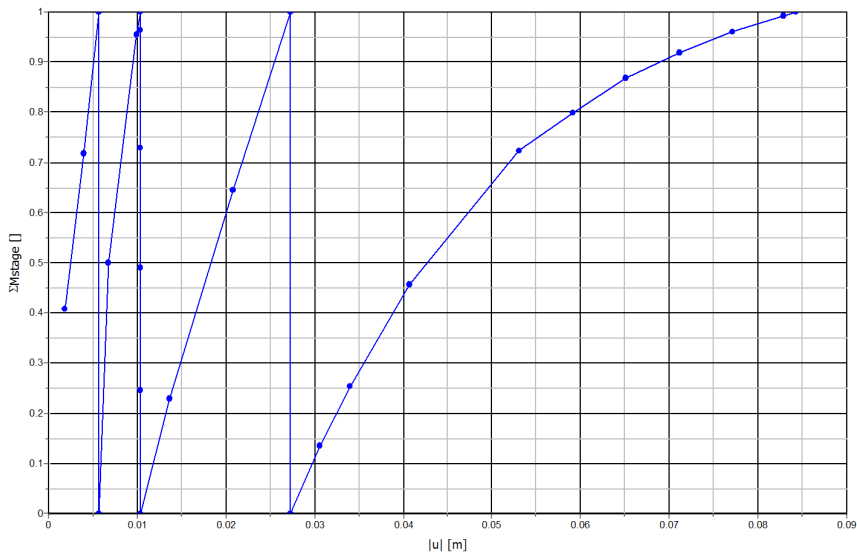

Figure 2.16 Load-displacement curve of deflection of wall
- Click *OK* to accept the input and generate the load-displacement curve. As a result the curve of Figure 2.16 is plotted.